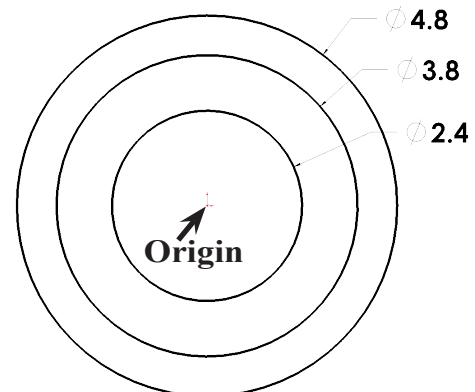

Fig. 2
- Step 3. Click **Circle**  (S) on the Sketch toolbar.
- Step 4. Draw **three circles** starting at the Origin , **Fig. 2**.
- Step 5. Click **Fully Defined Sketch**  (D) on the Sketch toolbar and OK  in the Property Manager.
- Step 6. Dimension the circles as shown in **Fig. 2**.
- Step 7. Click **Zoom to Fit**  (F) on the View toolbar.